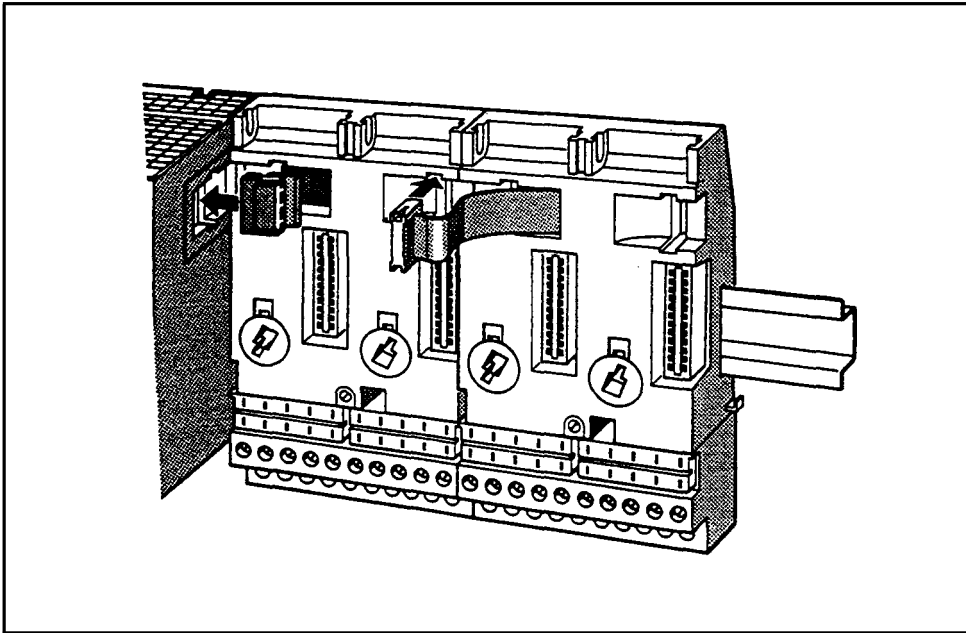

Figure 3-2 Electrical Connection of Bus Units
- Plug it into the receptacle on the right of the right side of the 318-8 interface module or into the socket of the bus unit to the left (→ Figure 3-2).